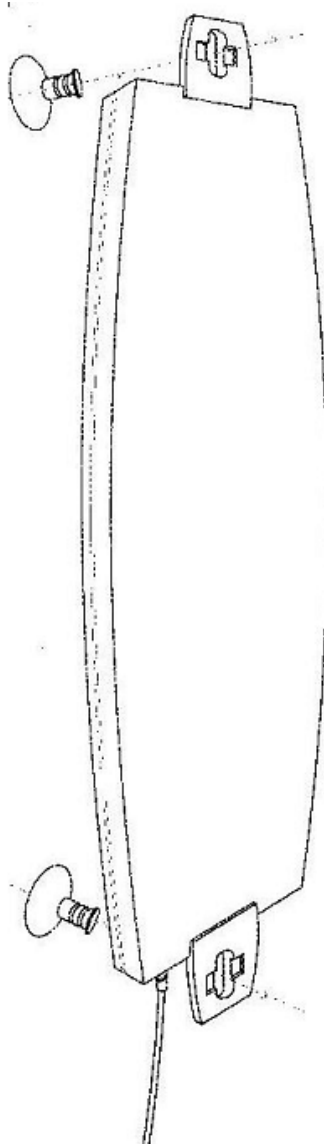

Figure 2-16: Window Mounting the Antenna
- 1 Attach the suction cups to the antenna. Refer to Figure 2-16 for directions.